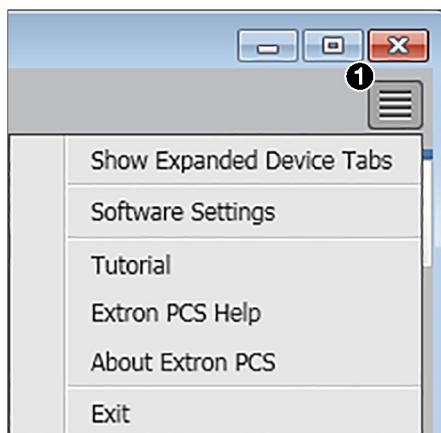

Figure 42. PCS Software Menu
Each device screen has a **Software** drop-down menu for configuration options. This menu contains software and information options pertaining to PCS settings. To display this menu, click the PCS icon in the upper-right corner of the main screen (see figure 42, ①)